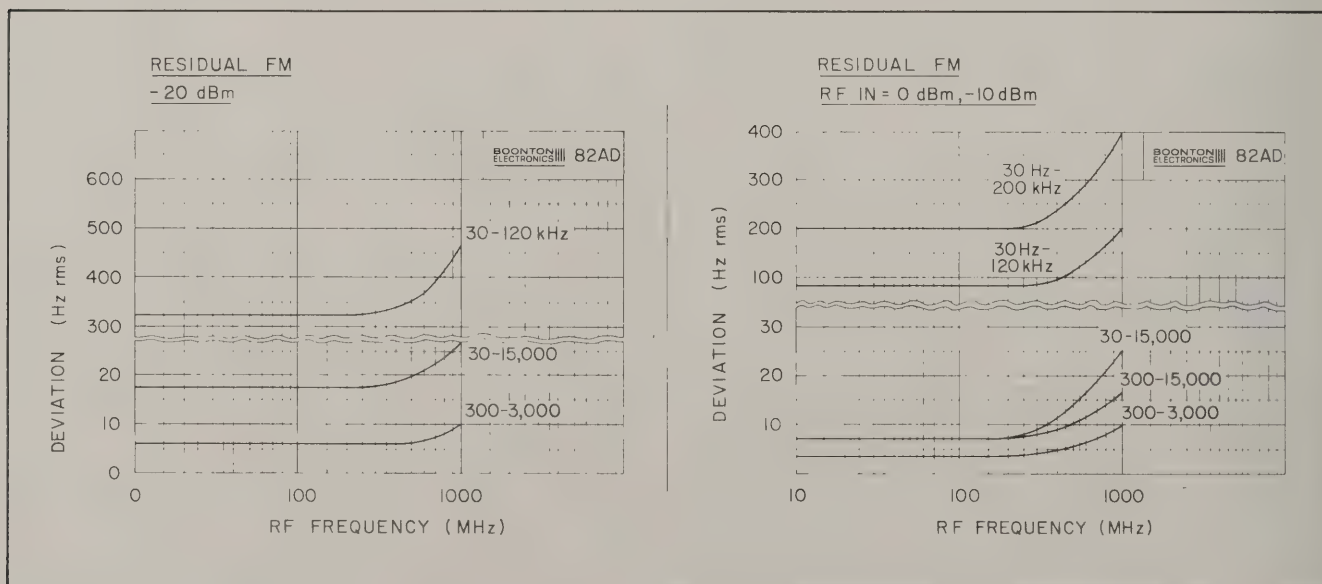
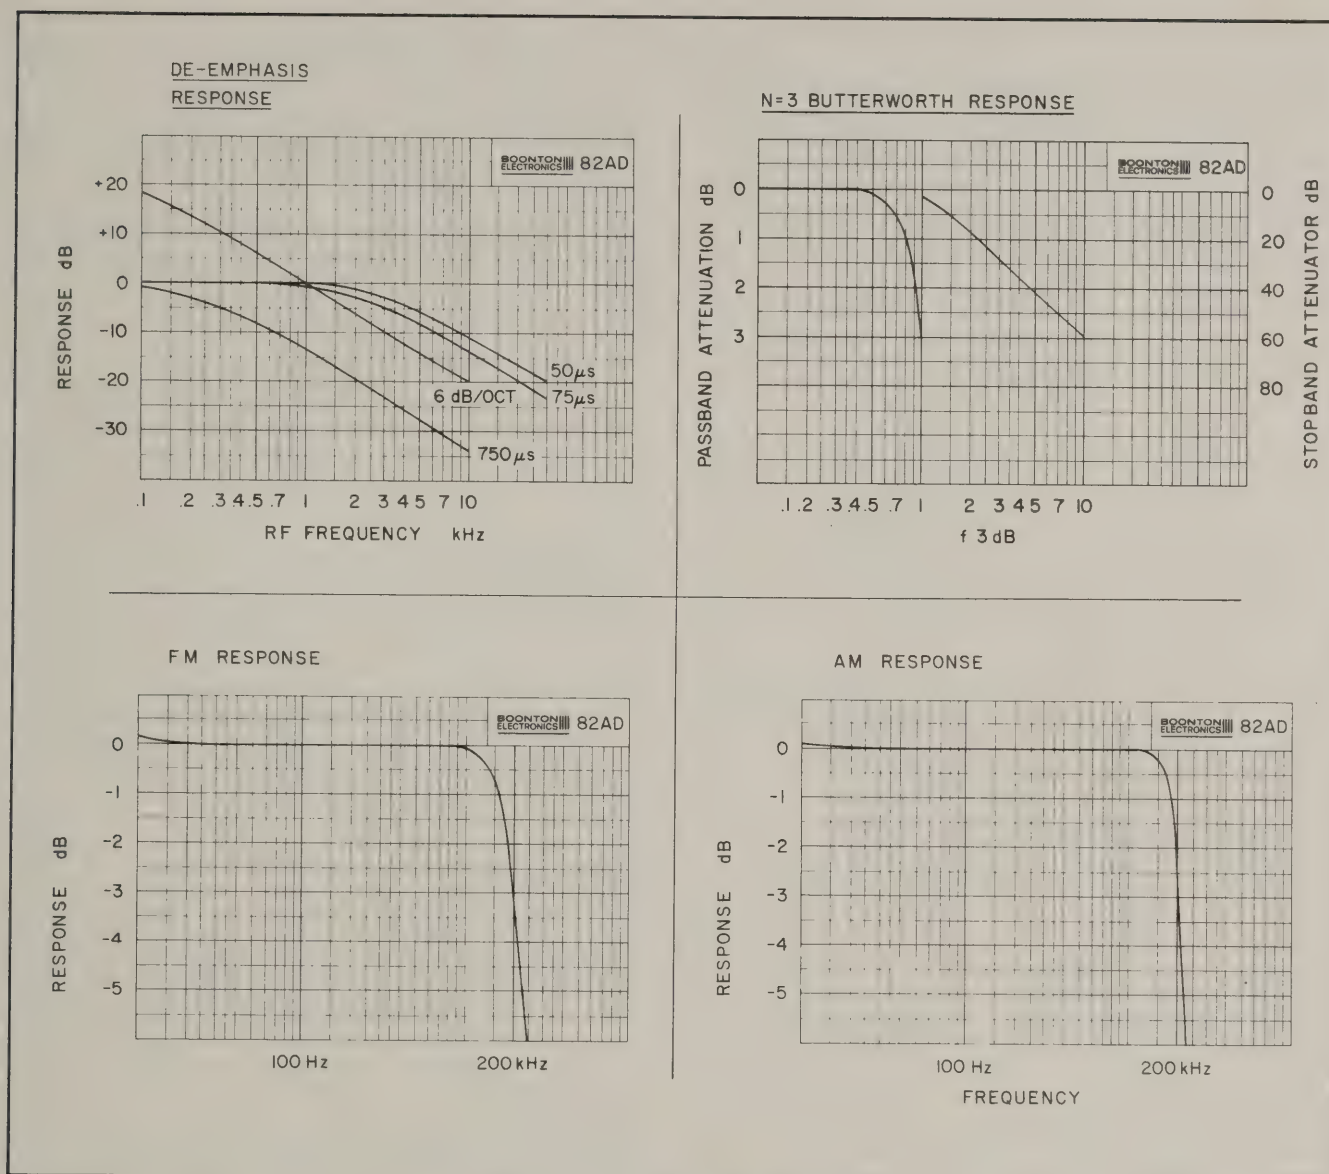

Figure 2-4 Typical Residual Response
Figure 2-5 Typical Audio Response
**2-16. High Accuracy FM Measurements.** High accuracy FM measurements for modulating frequencies from 10 Hz to 100 kHz and deviations up to  $\pm 300$  kHz peak-to-peak can be made with the Model 82AD. To achieve maximum accuracy, the signal level applied to the RF input of the Model 82AD should be greater than 100 millivolts. This reduces residual FM in the Model 82AD to a minimum value. To further reduce residuals, the minimum measurement bandwidth consistent with the modulation frequency should be used. For instance, for measurements at a 1 kHz modulation rate, the 300 Hz -3 kHz bandwidth should be used. Typical residual responses for the Model 82AD are plotted in Figure 2-4, and audio response is plotted in Figure 2-5. Because the audio detectors in the Model 82AD are true peak responding, the residual noise is added directly to the recovered signal being measured. True rms measurements of the recovered audio signal available at the
**2-18. AM Measurements.** The Model 82AD makes possible fast, accurate measurements of amplitude modulation. Optimum accuracy is achieved by using an input signal level between 100 and 1000 millivolts rms (lowest residuals), and the minimum measurement bandwidth consistent with the modulation frequency used. True rms measurement of the recovered audio output at the connector on the front panel of the Model 82AD will improve measurement accuracy in the presence of noise and/or distortion. Audio response curves are shown in Figure 2-5.